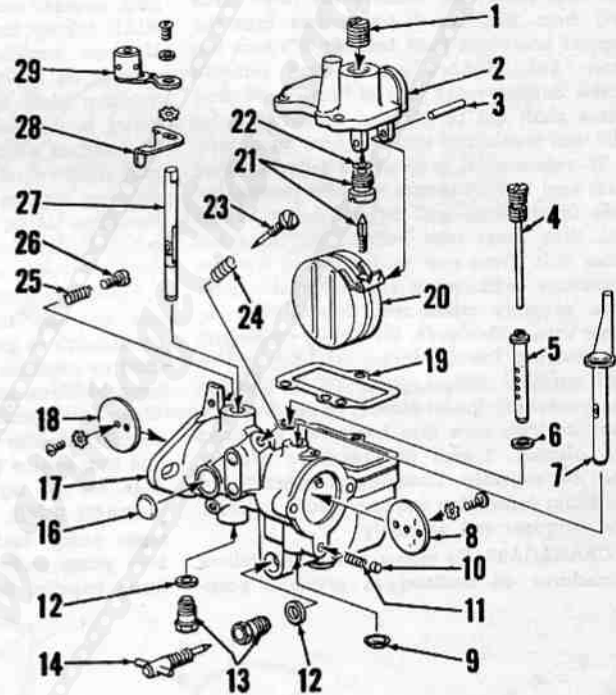
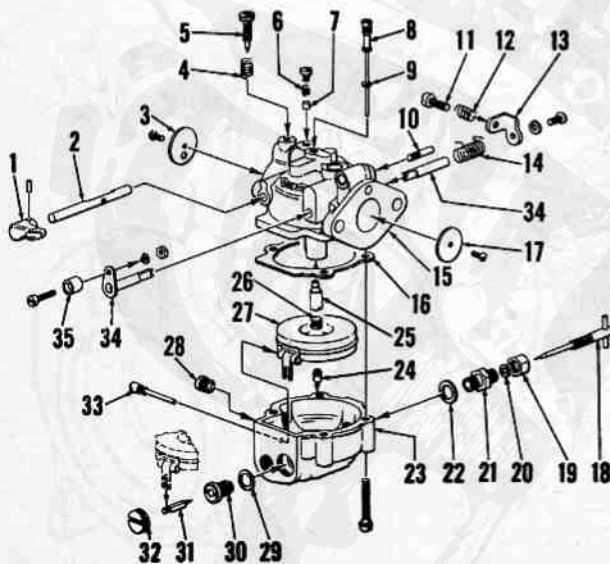

Fig. HL41—Exploded view of typical Series MT Tillotson float type carburetor as used on some Homelite pump and generator models.
Fig. HL40—Exploded view of typical Tillotson Series MD carburetor as used on some Homelite pump models.
CARBURETORS. Tillotson Series MD and MT float type carburetors and Homelite carburetors have been used; refer to appropriate exploded view in Fig. HL40 or Fig. HL41, or to the cross-sectional view in Fig. HL43.
Normal idle needle (5—Fig. HL40) setting for Tillotson MD carburetors is 1/4 turn open; main (high speed) needle (18) setting is 1 1/4-1 1/2 turns open. Float setting with fuel bowl assembly held in upside down position should be 3/8-inch from the lowest point of float at free end, to rim of fuel bowl.
Normal idle needle (23—Fig. HL41) setting for Tillotson MT carburetors is 3/4-turn open; main (high speed) needle (14) setting is 1-turn open. Float setting, with the float bowl cover assembly inverted, should be 1 1/2-inch as measured from the top of the float to the gasket surface of the float bowl cover.
Fig. HL42—Exploded view of fuel system on models using Tillotson float type carburetor. Exploded view of carburetor is shown in Fig. HL41. Actuating primer bulb (14) will pump fuel into carburetor float bowl.